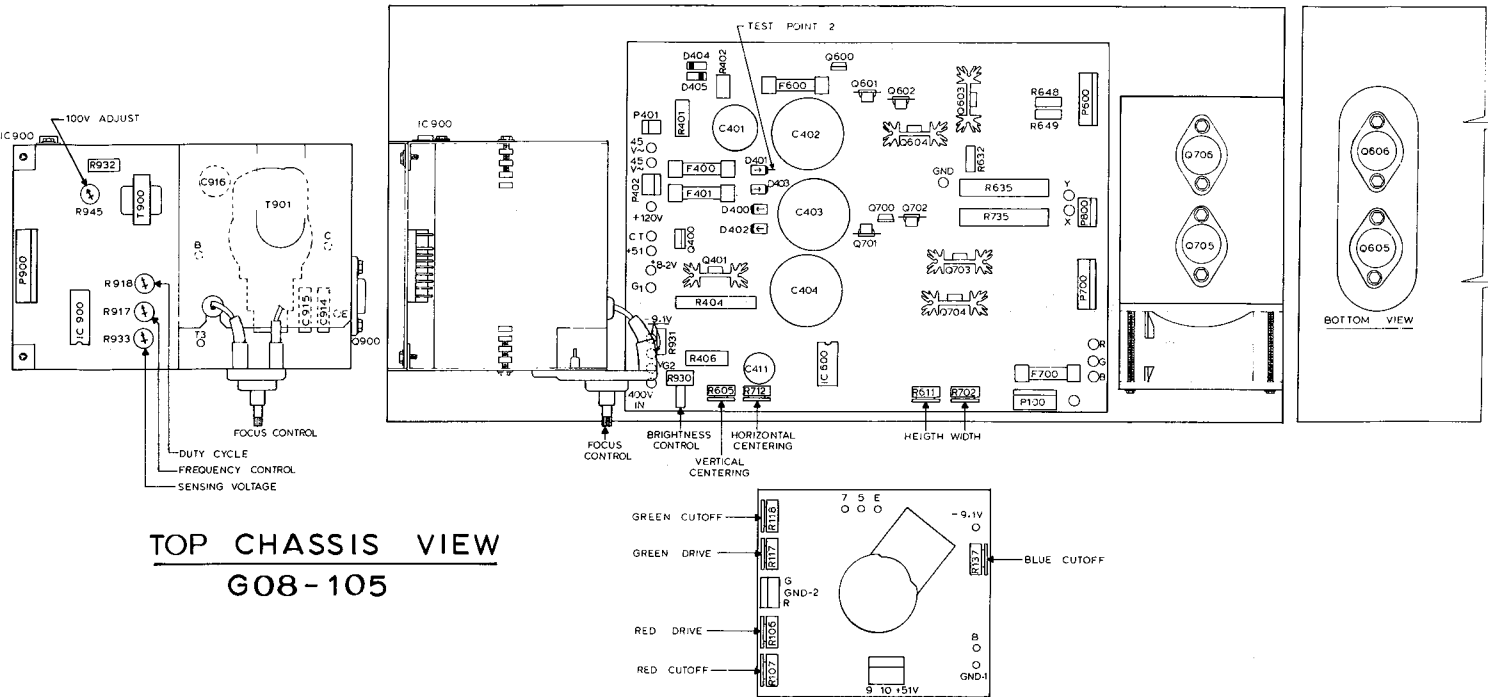

Figure 1
- 1.5 Turn off the red and blue fields on the generator and adjust the G2 control (figure 1) to produce a green field.
- 3.2 Set red and green drive controls to their mechanical center and turn the common G2 screen control and 3 cut-off controls to minimum (fully counterclockwise). Refer to figure 1 for control locations.
- 4.1 Refer to figure 1 for location of the vertical and horizontal size and centering controls (4 controls).